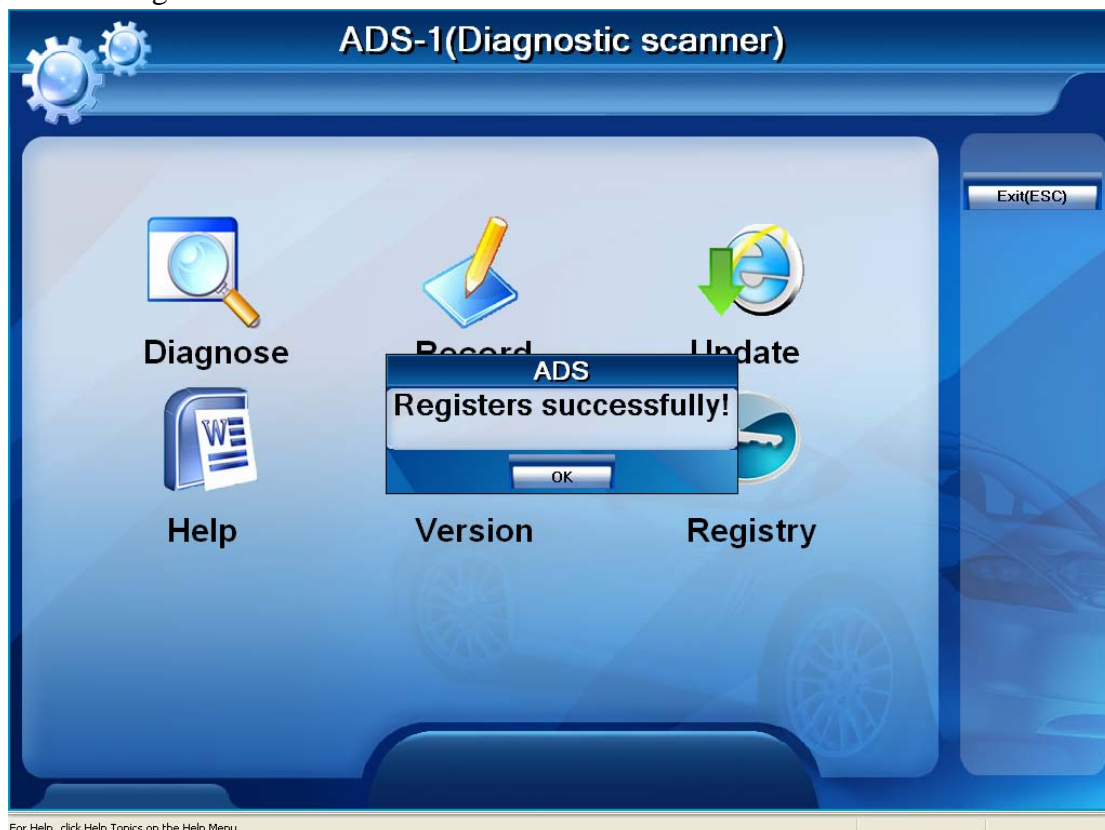

Figure-04
4. If the registration is correct, there will emerge "login succeed" message box, as shown in figure-04.